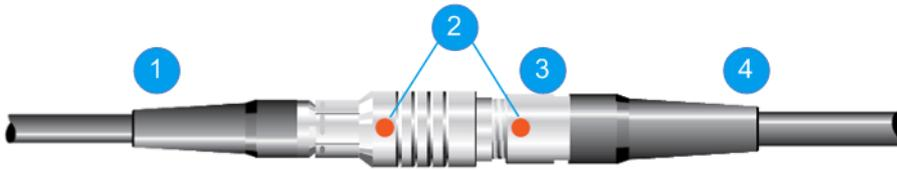

Fig. 3-2: Connecting the host connector
- ▶ Pull at the host connector (figure 3-2 (3)) to disconnect it from the connector of the USB adapter.